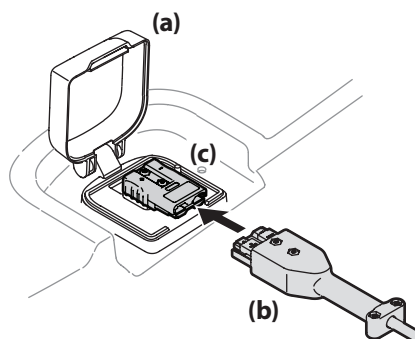

Figure 2-11
1. Lift the charge port door (a), located on the rear body panel of the tractor. See Figure 2-11.
2. Insert the charging cord (b) into the charge port (c). Plug charger cord (b) into wall outlet. See Figure 2-11.